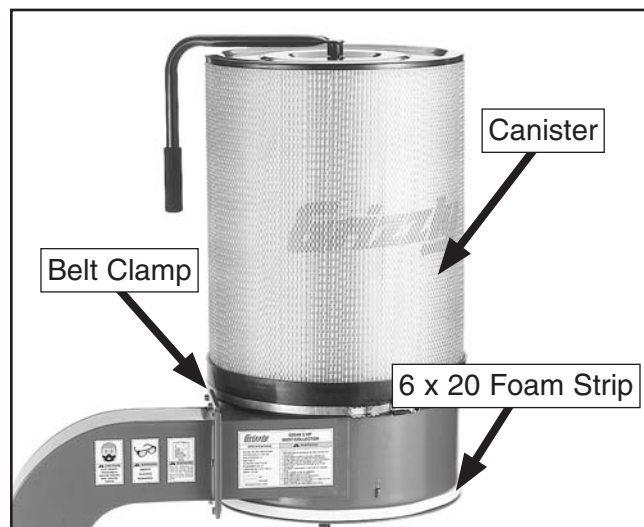

Figure 20. Canister installed.
11. Position the belt clamp around the base of the canister, place the canister over the collector (as shown in **Figure 20**), then tighten the belt clamp so it evenly compresses against the wide foam strip.
12. Apply the 6 x 20mm foam strip to the bottom of the collector, then trim the excess and evenly match the ends (see **Figure 20**).